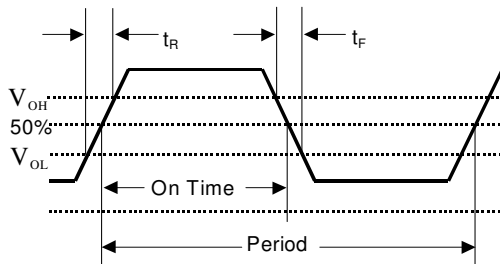
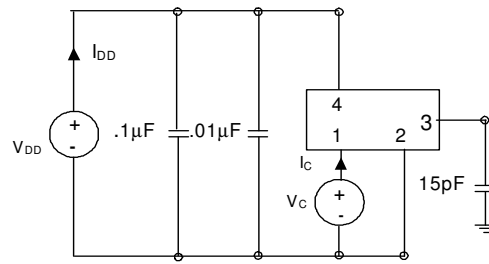

Figure 1. Output Waveform
Figure 2. Typical Output Test Conditions (25±5 °C)
2. Figure 1 defines these parameters. Figure 2 illustrates the operating conditions under which these parameters are tested and specified.